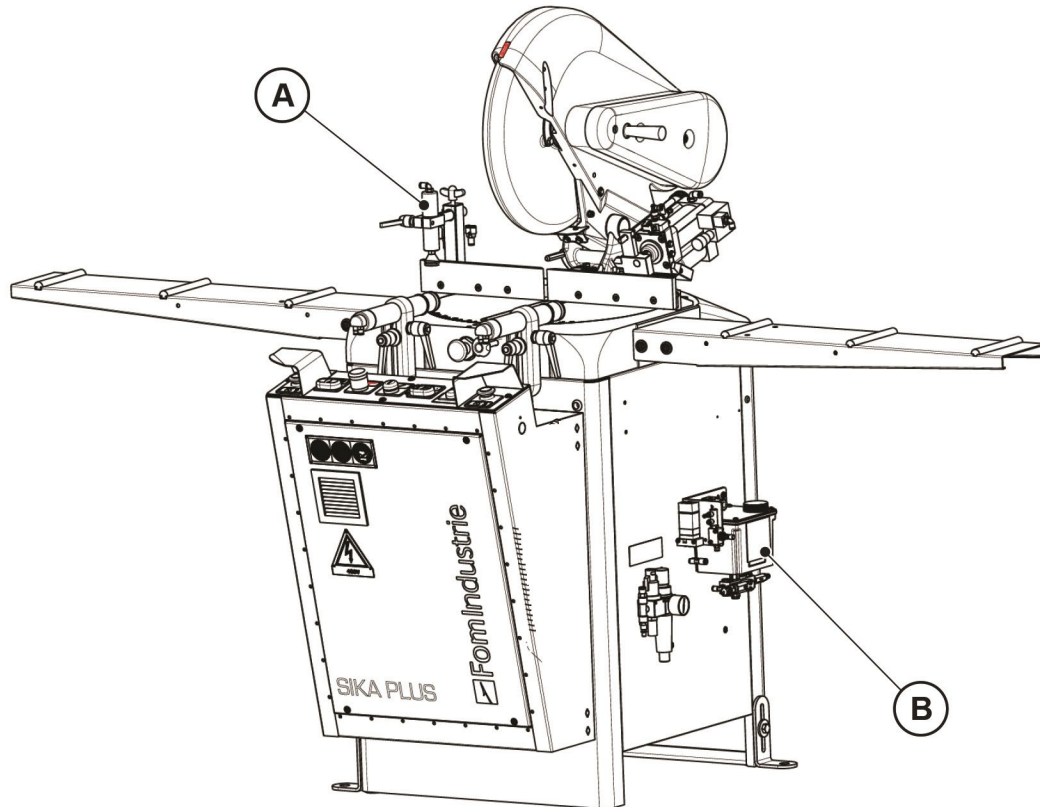

Fig. 03-01
- RH/LH vertical vice “A” (Fig. 03-01)
- Micro-drop pure oil cut lubrication kit “B” (Fig. 03-01)